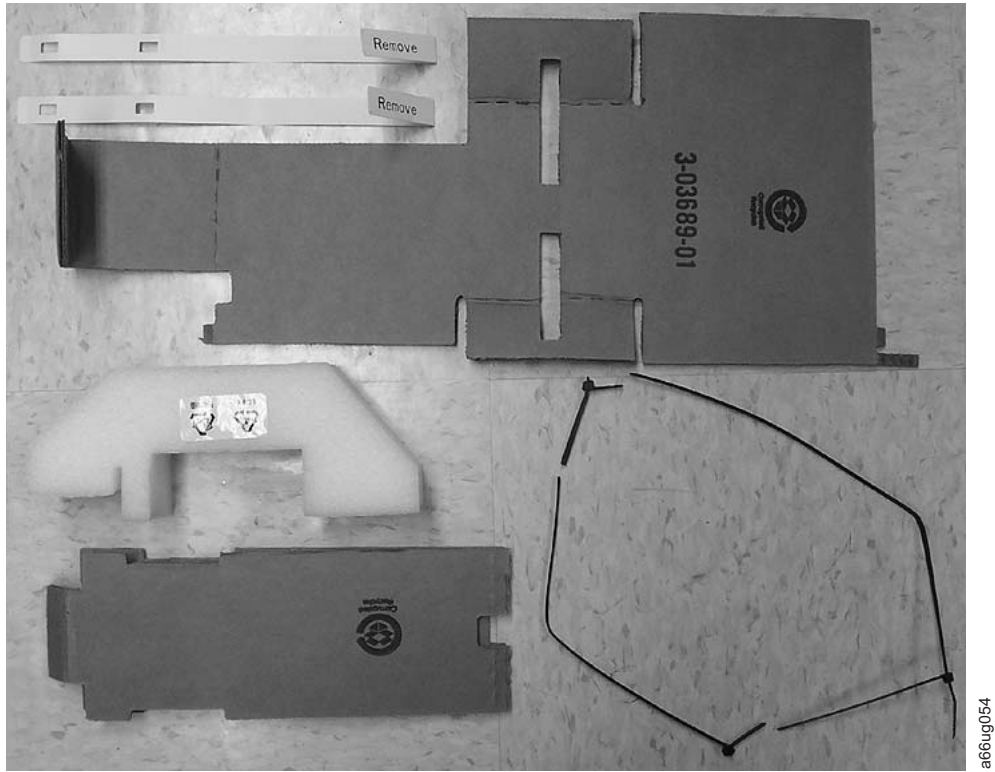

Figure 3-3. Library packaging material pieces
6. Refer to Figure 3-3 on page 3-5 and ensure that you have removed all of the packaging material.